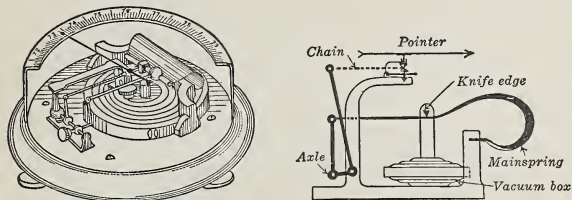

Fig. 33.—Aneroid Barometer with Diagram to Show its Principles
**The Aneroid Barometer** Fig. 33 shows an aneroid barometer with its outer protecting case removed, and also a diagram to illustrate the principle of the operation.